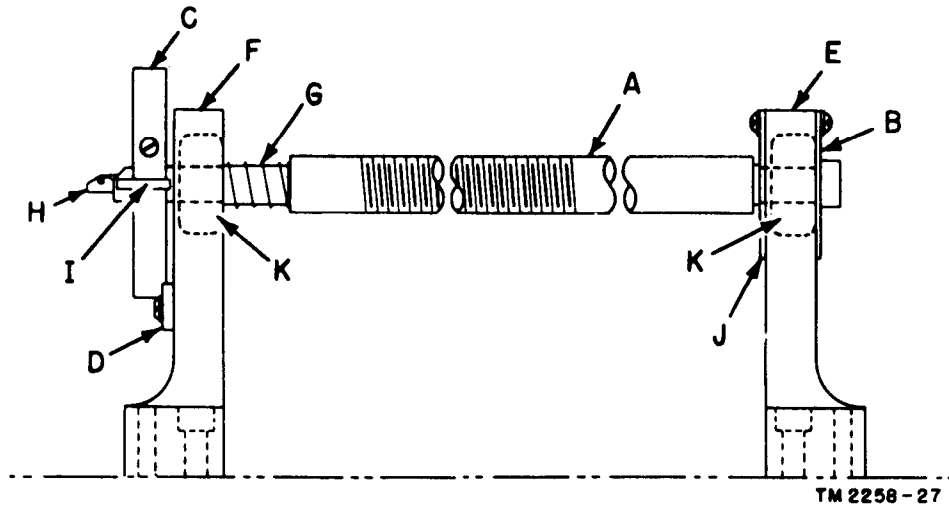

Figure 119. Lead screw, dog, and bearings.
e. Tension Adjustment. If phasing troubles occur in Facsimile Transceivers TT-1B/TXC-1 through TT-1F/TXC-1, tighten the drum-tension adjusting screw one-half turn. This is the upper screw on the left-hand lead-screw bearing block (fig. 119).
(fig. 119)
a. Cleaning. Clean the lead screw thoroughly with solvent (SD). Be careful not to scratch the threaded portion. After cleaning, inspect for scratches and nicks, using a magnifying glass. If nicks appear in the threaded portion, the threads sometimes may be *chased* by a skilled machinist working with a hand tool. Any nicks or dents in the other portion of the lead screw should be emoothed out with a fine oil stone. Examination of the lead screw should include an inspection of the bearing (K, fig. 119). Replace the bearings that cause the lead screw to bind.
d. Lead Screw, Dog, and Bearing Parts Description (fig. 119).